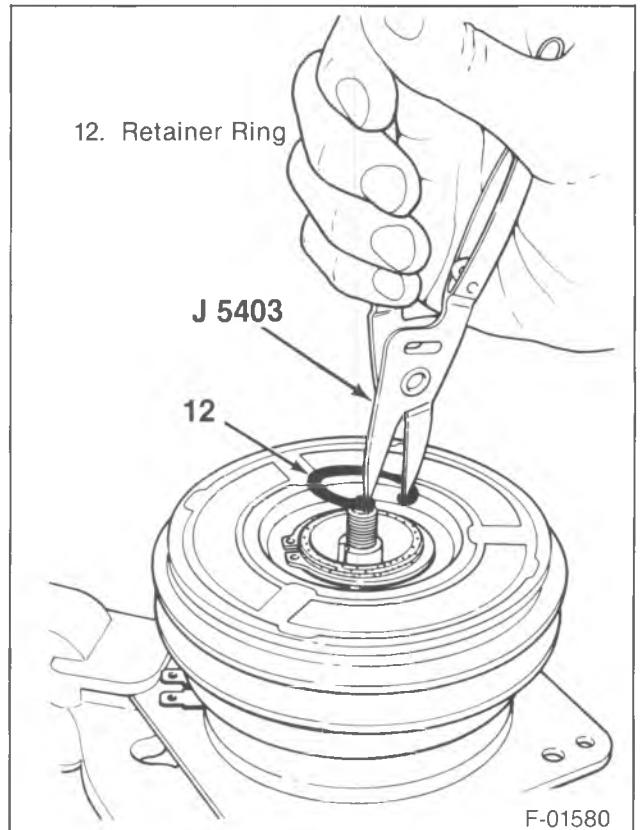
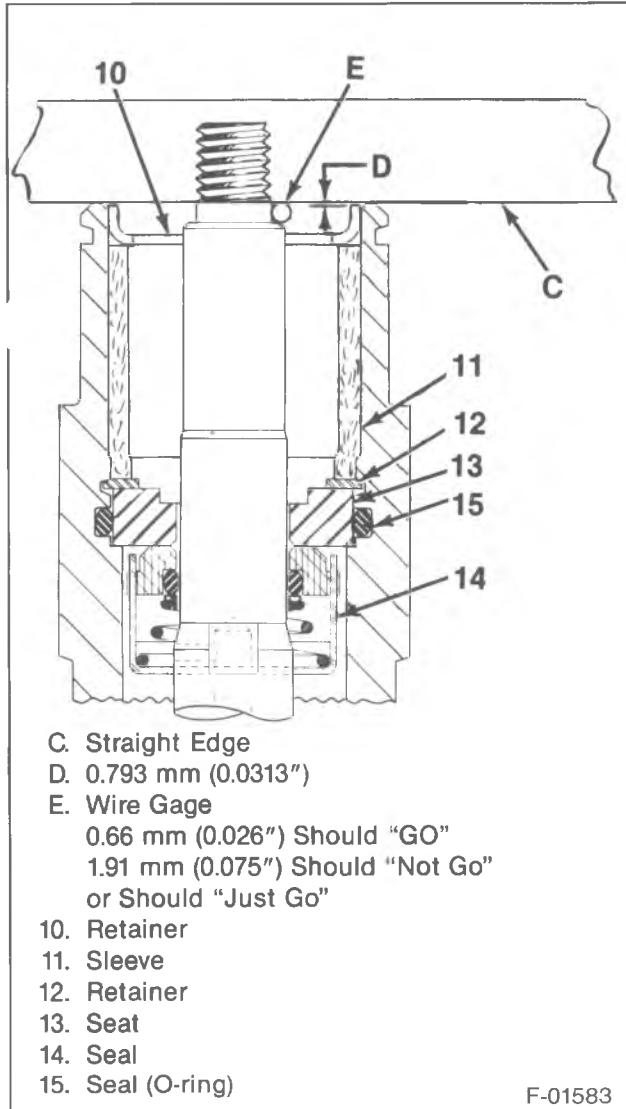

Figure 13—Removing/Installing the Shaft Seal Retaining Ring
Figure 16—Shaft and Seal Position and Correct Position Gaging Guide
- The inside of the compressor around the shaft (38). Prevent dust and dirt from entering the compressor.
2. Sleeve retainer (10).
3. Absorbent felt sleeve (11).
4. Shaft seat retaining ring (12) with J 5403 (figure 13).
- Do not dislodge the seal (O-ring) (15).
4. Seal shaft retainer ring (12) with J 5403 (figure 13).
6. Shaft nut (1) with J 9399.
- Replace shaft nut (1) with a new one.
7. New absorbent sleeve (11).
8. Sleeve retainer (10) with J 9393.
- Press and tap with a mallet to set the retainer and sleeve into place. Place the retainer 0.7937 mm (0.03125-inch) from the face of the compressor neck (figure 16).
9. Clutch plate and hub assembly (2).
- To check the position of the axial plate on the shaft, remove the clutch driven plate and measure the distance between the front head extension and the flat shoulder on the shaft with a wire gage. The clearance should be 0.66–1.9 mm (0.026–0.075-inch) (figure 16).